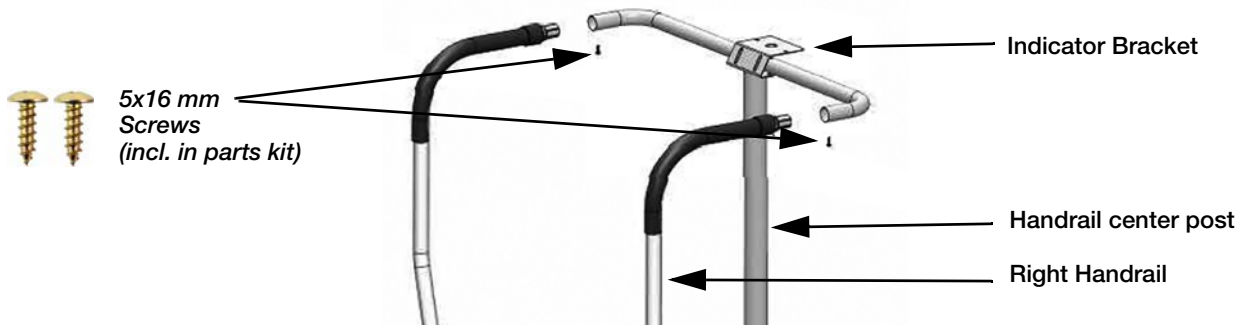

Figure 2-4. Handrail to Post Assembly
7. Insert the handles into the handrail post (Fig. 2-4).